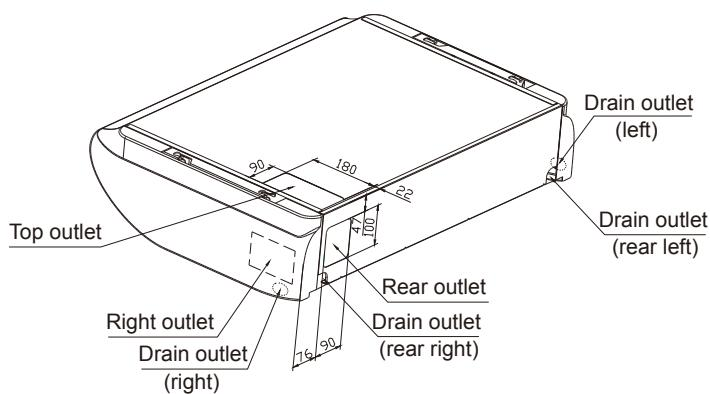

Fig. 3.3.3
- * Pipes can be taken out in 3 directions (rear, right or top). (See Fig.3.3.3)